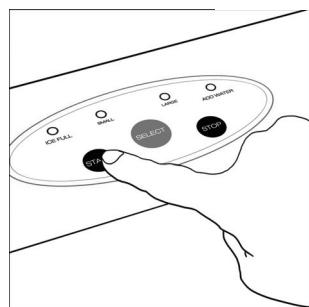

Figure 2.
5. Press the "**START**" button to start machine (See Figure 2), the ice making process will last approximately 1 hour for the first batch and 30 minutes thereafter depending on size chosen, ambient temperature and how long the unit has been in operation.